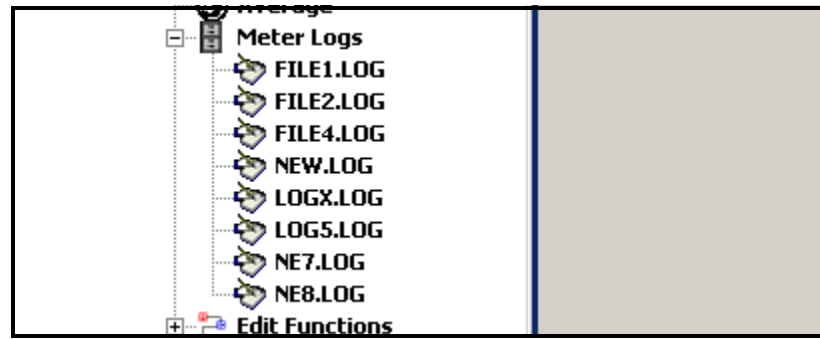

Figure 3-10: An Expanded Meter Logs Option
1. From the *New Meter Browser* in PanaView, expand the network tree and click on the *Meter Logs* option. If you have created one or more logs, the tree will appear similar to Figure 3-10 below.